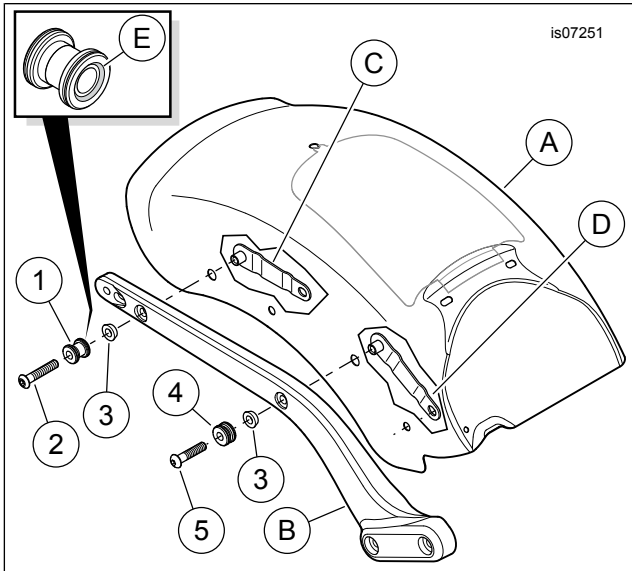

Figure 1. Service Parts, FXSBSE Docking Hardware
See Figure 1 and Table 1.
1. See Figure 1. Remove and discard one **rear** fender support screw.
2. Get a wide docking point (1), long screw (2) and docking spacer (3) from the kit.
3. Install the docking point, countersunk end (E) last as shown, onto the screw threads, followed by the spacer, large end first.
5. Install the screw through the fender support (B) and fender (A), and into the fender rear mounting bracket (C). Tighten to 28.5–36.6 N·m (21–27 ft-lbs).
7. Get a narrow docking point (4), short screw (5) and docking spacer (3) from the kit.
9. Install the screw through the fender support and fender, and into the fender front mounting bracket (D). Tighten to 28.5–36.6 N·m (21–27 ft-lbs).